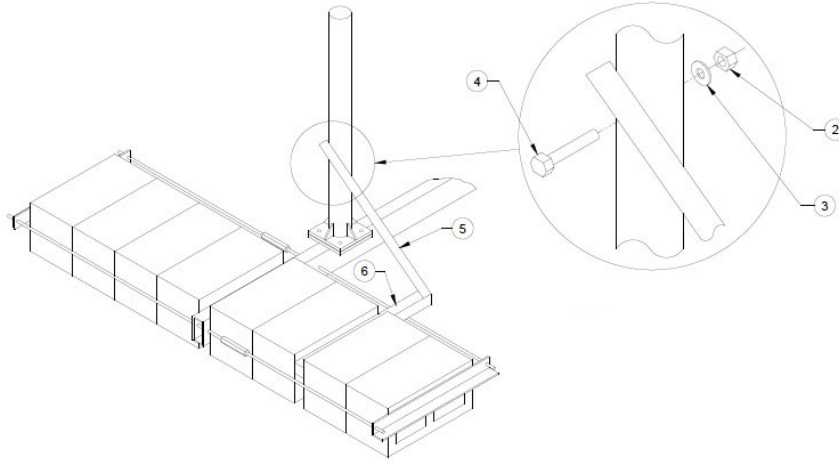

Figure 9: Brace Angle and Lower Mount Angle Assembly
10. Attach the brace angle (5) to the mast using the supplied 3/8" x 4" bolt (4), 3/8" flat-washer (3), and 3/8" whizlock nut (2), but do not tighten. Dry fit the brace angle to the lower mount angle (6), but do not bolt together (see Figure 9).